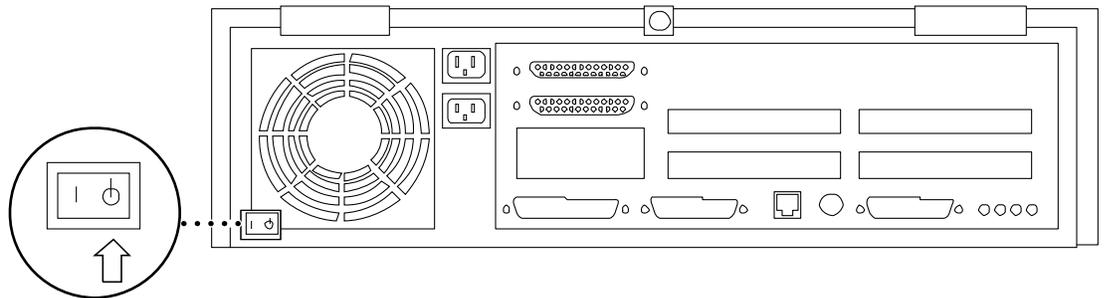

Figure 7-1 Server AC Power Switch
4. Turn off the AC power switch on the back of the server, (Figure 7-1).
4. Turn off the AC power switch on the back of the server (Figure 7-1).
- a. Ensure that the AC power switch on the rear of the server is off (Figure 7-1).**
1. Have the system administrator remove the node from the cluster and halt the failed node (0) using the appropriate HA or PDB procedure. Wait for the system-halted message and the boot monitor prompt.
2. Turn off the AC power switch on the back of the failed node (Figure 7-1).